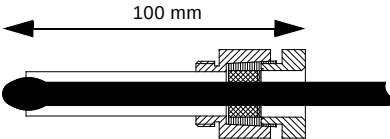

Fig. 5 Pt100 sensor fitted
4. Fit the sensor in the sleeve, see section 3.2.1 *Adjustment of the sensor sleeve for MMS motors* and fig. 5.